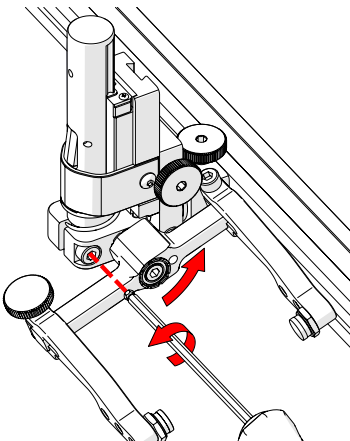

Fig. 42 - Loosen 3 mm screw
2. Using the supplied 3 mm hex driver loosen the transverse adjustment screw (*Fig. 42*) and rotate the yoke about the vertical shaft achieving the desired angle.